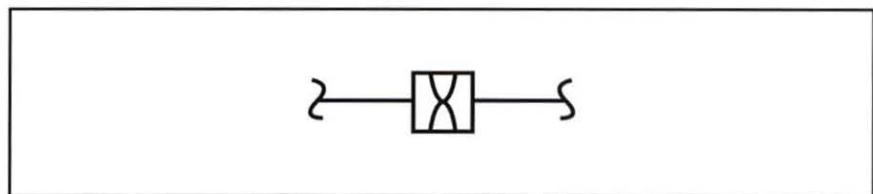

Figure 53. Flow Sensing Element Symbol
7. Determine what type of flow sensing element symbol is shown in figure 53.